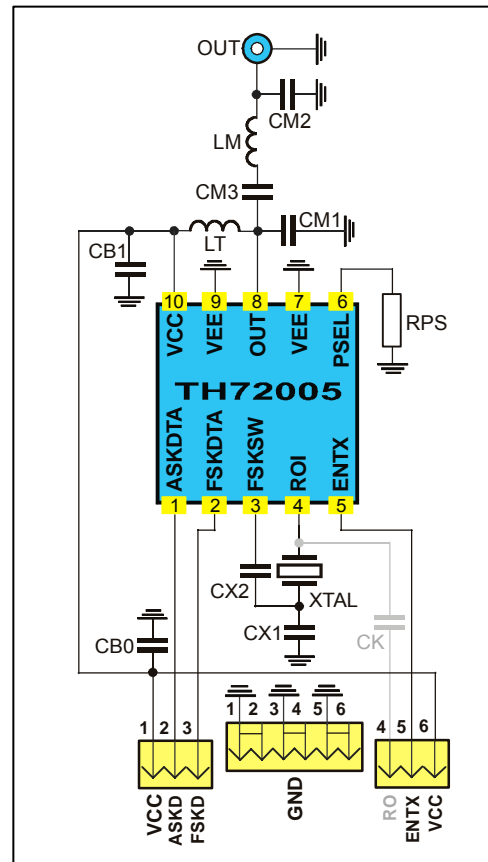

Fig. 7: Circuit diagram with 50 Ω matching network
| 4.1 | Board Component Values to Fig. 7 | 9 |
4.1 Board Component Values to Fig. 7